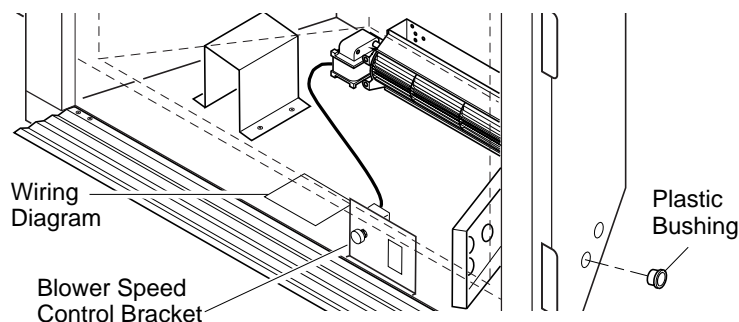

Figure 33 - Installing Plastic Bushing and Wiring Diagram Sticker
- If your fireplace system is installed as a freestanding unit with an accessory mantel**, determine whether the power cord will exit the left side or the right side of the firebox. Install one plastic bushing provided into the 1 1/2" hole in the outer casing through which the power cord will exit. Install the second plastic bushing provided into the floor support bracket if exiting through the right side (see Figure 33). Route power cord through (both) plastic bushing(s) and plug the power cord into a properly grounded 3-prong wall receptacle near the firebox.
- Peel off the backing paper and stick the supplied wiring diagram decal on the firebox bottom approximately 3" to the right of the blower speed control bracket (Figure 33).